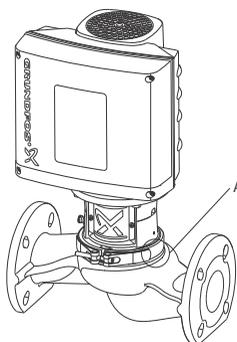

Fig. 8 Clamp (A)
- Pay special attention that the pump head does not fall down when loosening the clamp. See fig. 8.
- Pay special attention to any escaping vapour when loosening the clamp. See fig. 8.
1. Loosen the clamp securing the pump head to the pump housing. See fig. 8.